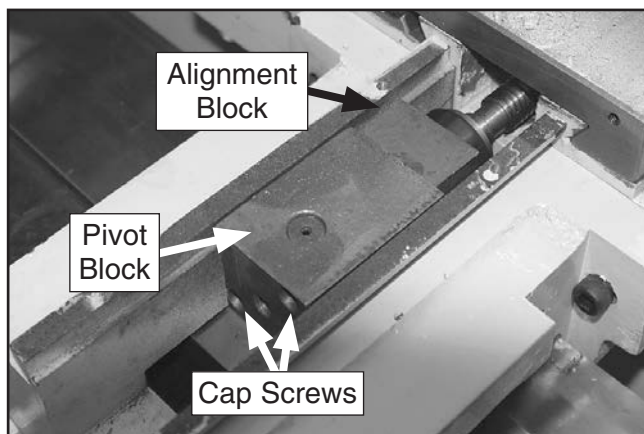

Figure 19. Pivot and alignment blocks re-installed.
31. Re-install the pivot block into the taper attachment body so that you can access the cap screws from the outside (see **Figure 19**).
32. Use the cross slide handwheel to extend the end of the leadscrew into the taper attachment body so the alignment block is against the pivot block, as shown in **Figure 19**.